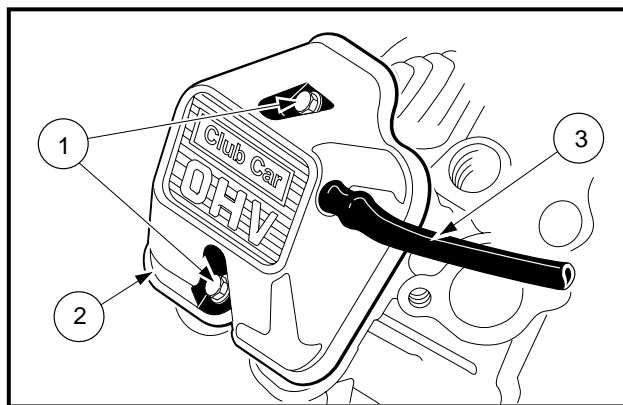

Figure 13-9 Rocker Cover Removal
1. Remove the two bolts (1) and remove the rocker cover (2) along with breather tube (3) (**Figure 13-9, Page 13-10**). See following NOTE.